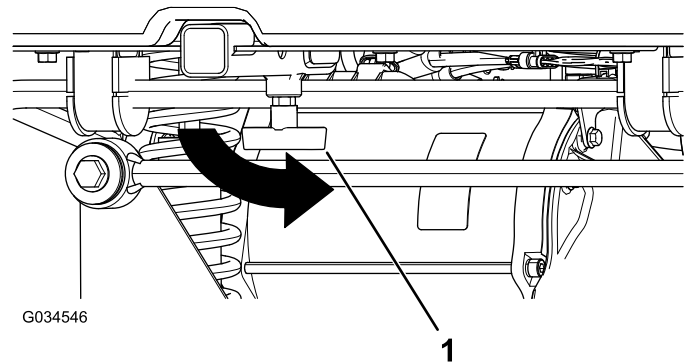

Figure 16
3. Tighten the 'T' handle by rotating it counterclockwise (Figure 16).